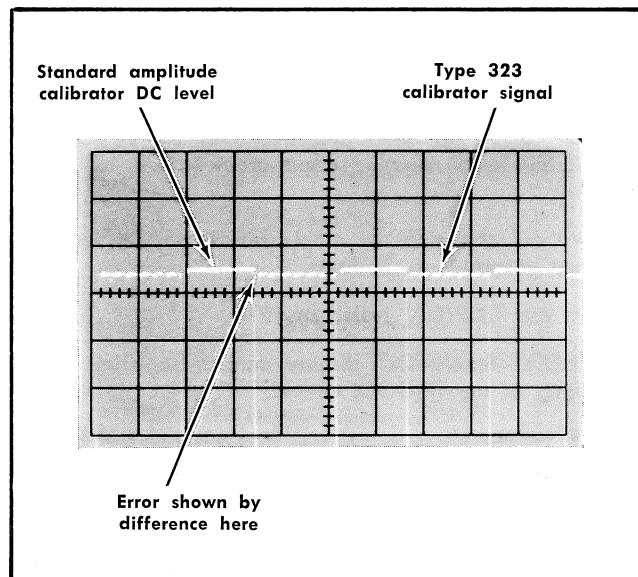

Fig. 5-7. Typical CRT display when checking voltage output of calibrator.
g. CHECK—Difference between the standard amplitude calibrator output level and the Type 323 calibrator output level is 0.05 division (about one trace width) or less (0.5 volt, $\pm 1\%$; see Fig. 5-7).